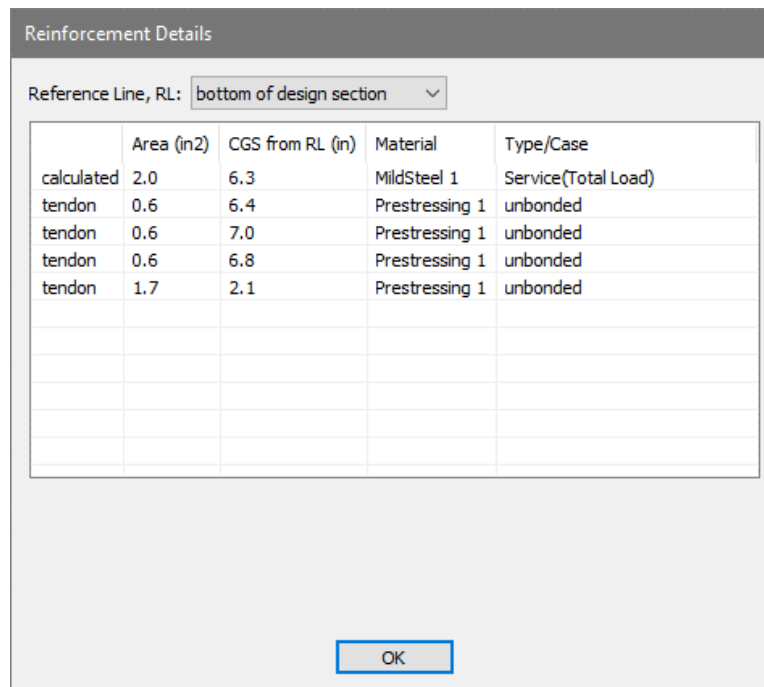

Figure 8-83
- In the *Reinforcement* section we can see the area of base reinforcement in the section, the area of prestressed steel in the section, as well as the area of calculated reinforcement in the top and bottom fiber of the section. Just to the right of the area of calculated reinforcement the user can also see the controlling load combination in parenthesis. Lastly if we click on the *Details* button in this section, we can see more details about the reinforcement in the section as shown in **FIGURE 8-83**.